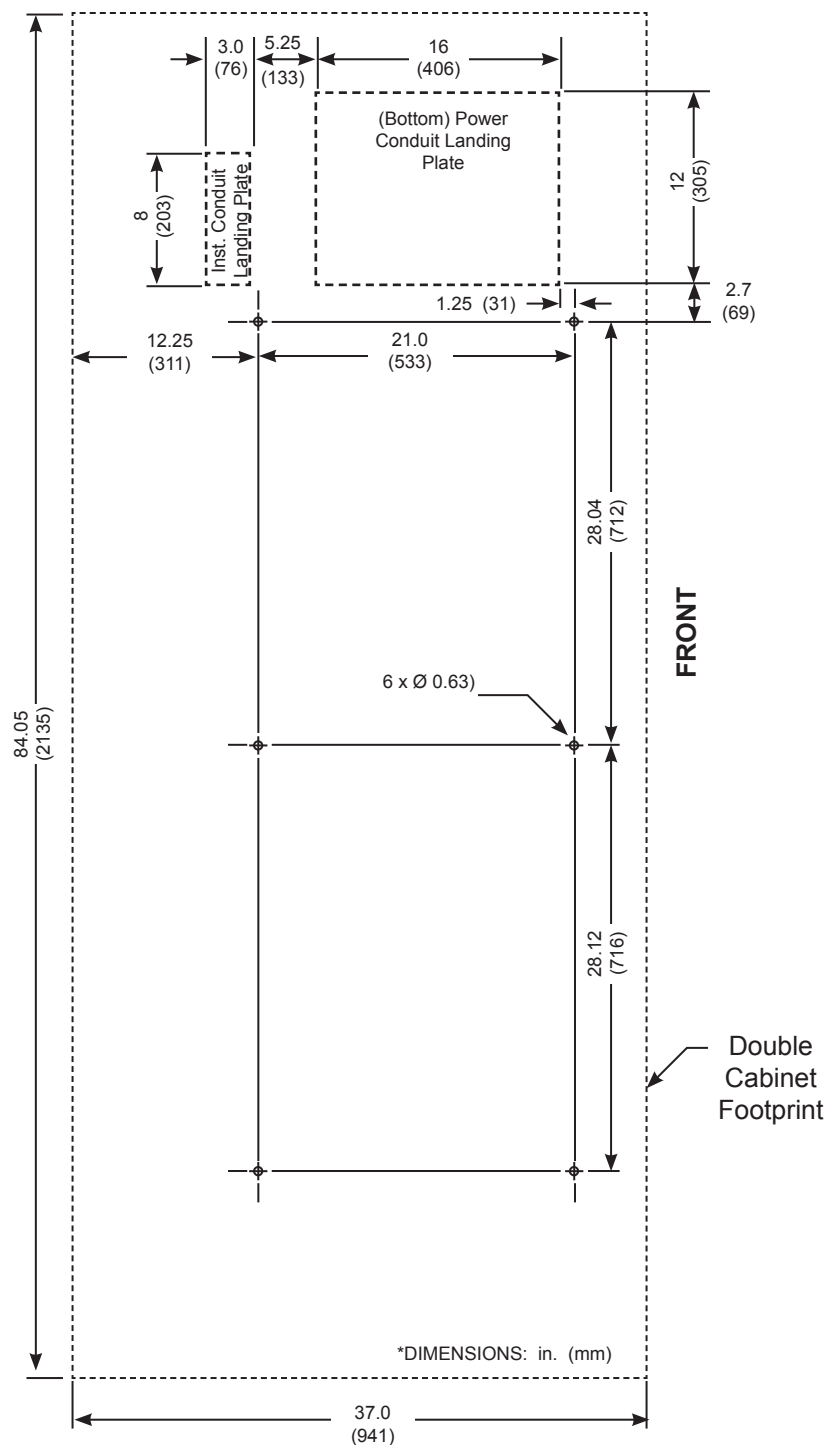

FIGURE 8.4: 5000 SERIES DOUBLE CABINET UPS ANCHORAGE AND FOOTPRINT
Use 5/8 in. (16 mm) diameter anchor bolts. There are 0.63 in. (16 mm) diameter holes provided in the UPS base. See Figure 8.4 – 8.10 for the hole locations and dimensions for the specified UPS models.
Use 5/8 in. (16 mm) diameter anchor bolts. There are four (4) x 0.63 in. (16 mm) diameter holes provided in the UPS base. See Figure 8.4 for the hole locations and dimensions in inches (mm) for the specified UPS model. Following is the layout for the anchorages and footprint the Single Cabinet 5000 Series UPS.
Use 5/8" (16 mm) diameter anchor bolts. There are six (6) x 0.63 in. (16 mm) diameter holes provided in the UPS base. See Figure 8.4 for the hole locations and dimensions for the specified UPS model. Following is the layout for the anchorages and footprint the Single Cabinet 5000 Series UPS.